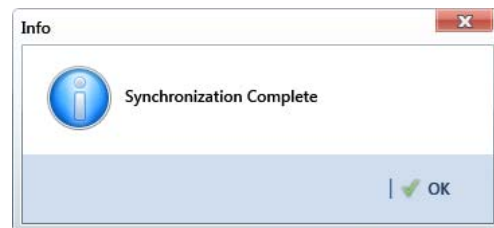

Figure 16-10. Synchronization Complete
- 2 Click **OK** when the message *Synchronization Complete* displays to complete the process (Figure 16-10).